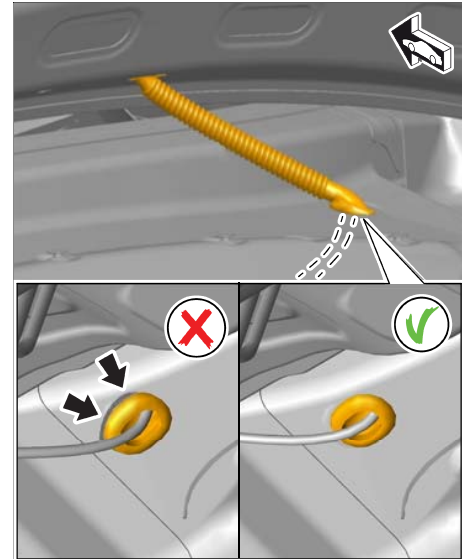

Figure 24
- 9 Check that rubber sleeve on wire harness for rear lid (additional brake light) is fitted correctly all the way around ⇒ *Figure 24 -arrows-* and adjust it if necessary.